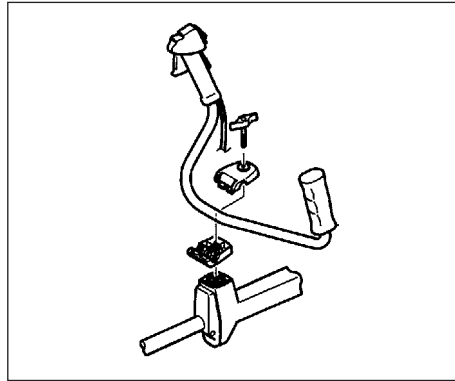

Fig.1-3C
#### MERK ang. CG40EYA (TP) (Fig. 1-3C, 3D)